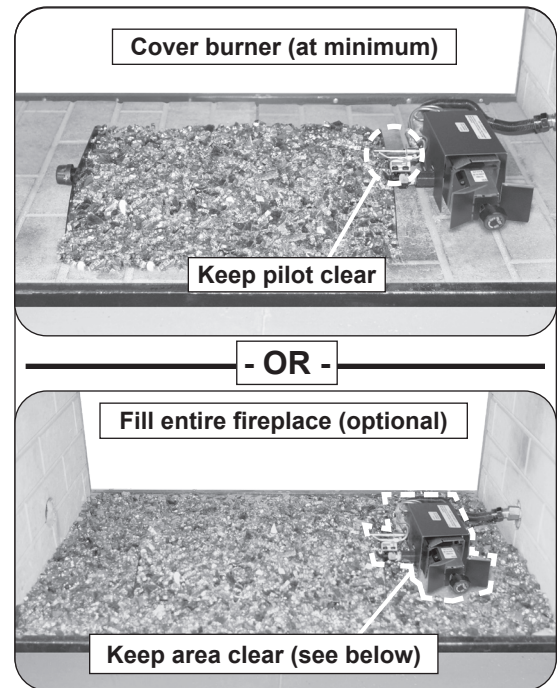

Fig. 20-1 Glass media placement
1. After the required sand/vermiculite and screen have been placed, pour the glass media (glass, gems) so that the burner pan is covered completely and evenly (see Fig. 20-1).
- DO NOT place any glass media directly on the pilot assembly, on or within the heatshield, or under a knob if one exists at the front of the valve (see Fig. 20-1 and Fig. 20-3).
2. Complete placement by pouring the remaining glass media on the floor of the fireplace, around all sides of the burner system (see Fig. 20-1).